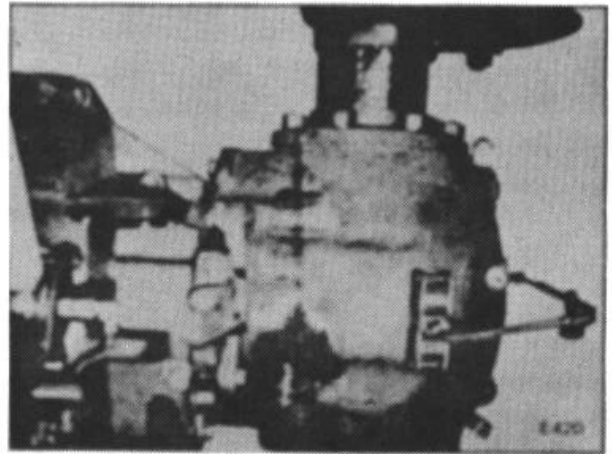

Figure 17.
2. Mount a dial indicator on the axle housing with the indicator finger inserted into the filler hole and against a tooth on the ring gear. (Fig. 17) The tooth and the finger should form an angle as close to 90° as possible.